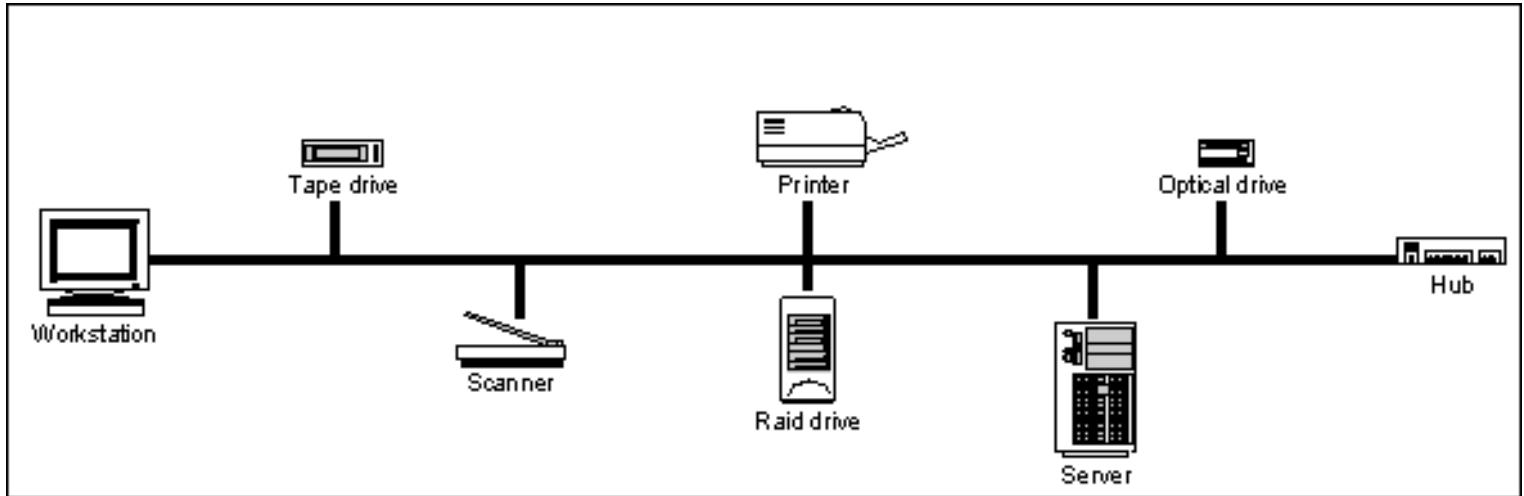

Figure 1. Typical SCSI network application.
**Figure 1** illustrates a typical SCSI network application. This diagram demonstrates the variety of devices that can be connected to the SCSI bus. In the figure, the workstation acts as the main controller. Thus, the host bus adapter (HBA) card will have on-board SCSI termination, reside within the workstation enclosure, and be connected to the computer motherboard. The SCSI hub will provide the end of the bus termination and branch out to another SCSI network through three or more ports.